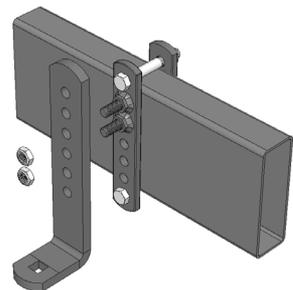

Figure 10
Slide the L-brackets onto the link plate studs with the spring arm plate facing away from the trailer. For the initial setup, leave two (2) holes showing at the top above the studs and two (2) below. See Figure 10. They may need to be adjusted up or down later. Thread on the nylock nuts and tighten them - see Figure 10. When weight distribution setup is complete, torque the L-bracket nuts to 75 ft-lbs.